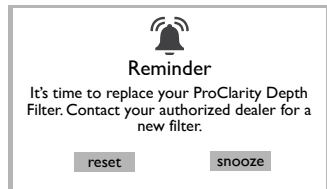

Figure 12.6h
4. When the timer expires, a message will appear on the control panel display, Figure 12.6h. Follow the previous instructions to reset the timer. The filter must be replaced. Refer to Section 13.1, page 50, for filter location. If you tap “snooze” the message will clear but the error icon ▲ will display and the reminder screen will reappear in 10 days.